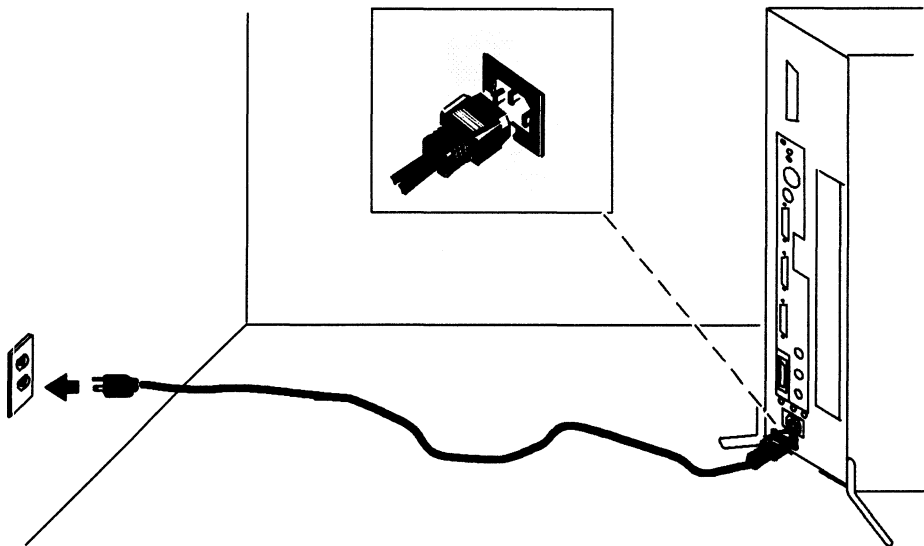

Figure 2-9 Connecting the Computer Unit Power Cord
2. You receive the computer unit with a yellow and black warning label covering the rear panel ac connector. Examine this label to be sure your computer unit's voltage is properly set for your site; then, remove the label and plug the female end of the computer unit power cord into the ac connector on the computer unit rear panel, as shown in Figure 2-9.